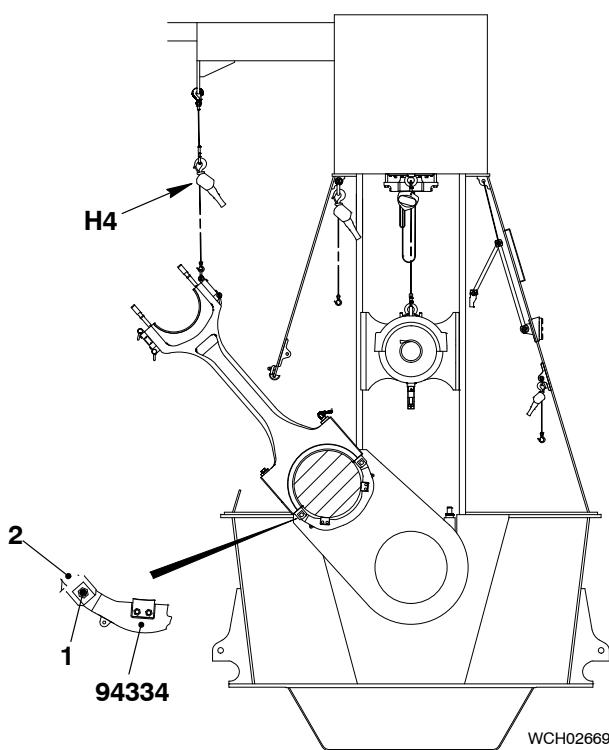

Fig. 14
- 15) Attach the bottom end of the plate (94334, Fig. 14) to the bottom rod (2) with the nut and bolt (1).